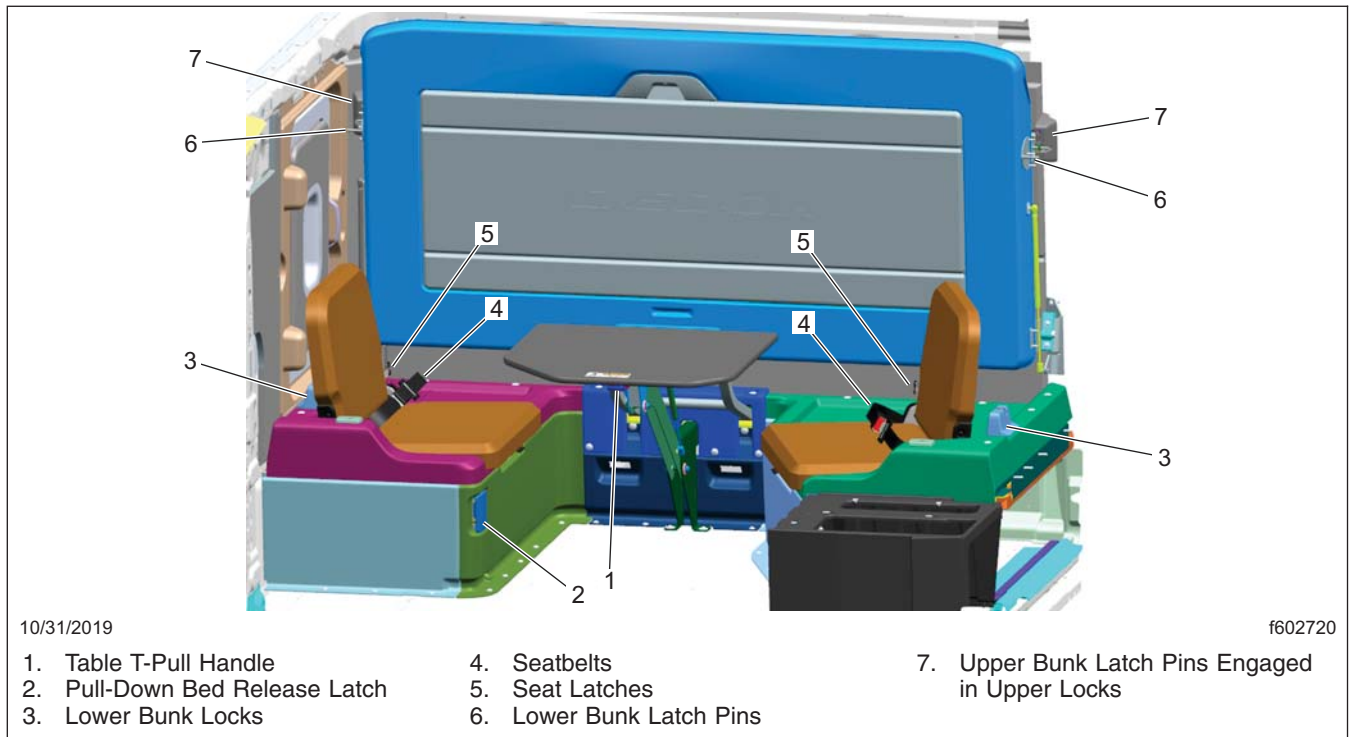

Fig. 8.4, Pull-Down Bed With Lounge
Setting up the pull-down bed (see Fig. 8.4) consists of the following steps.
3. Pull out the bed release latch until you feel a release of tension. See item 2 in Fig. 8.4.
1. Pull out the bed release latch until you feel a release. See item 2 in Fig. 8.4.